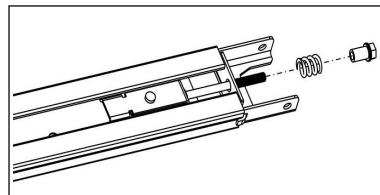

Fig 9
- As Fig.9, release the nut & spring.